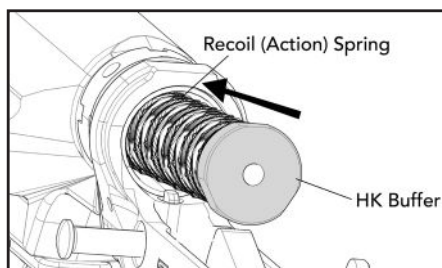

Fig. 52 – Installing the buffer and action spring
- d. Ensure that the hammer is in the down (cocked) position before attempting to install the buffer and action spring. Mount the action spring onto the buffer and insert the buffer and spring into the receiver extension. Push back on the buffer far enough until the buffer is retained by the spring loaded buffer detent (Fig. 52).